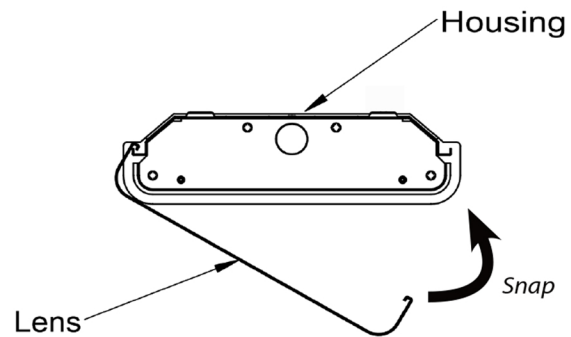

Fig.2
7. Replace **Reflector**. Be careful not to pinch wires. Hook **Lens** to one side of **Housing** and Snap **Lens** into place as shown in Fig. 2.